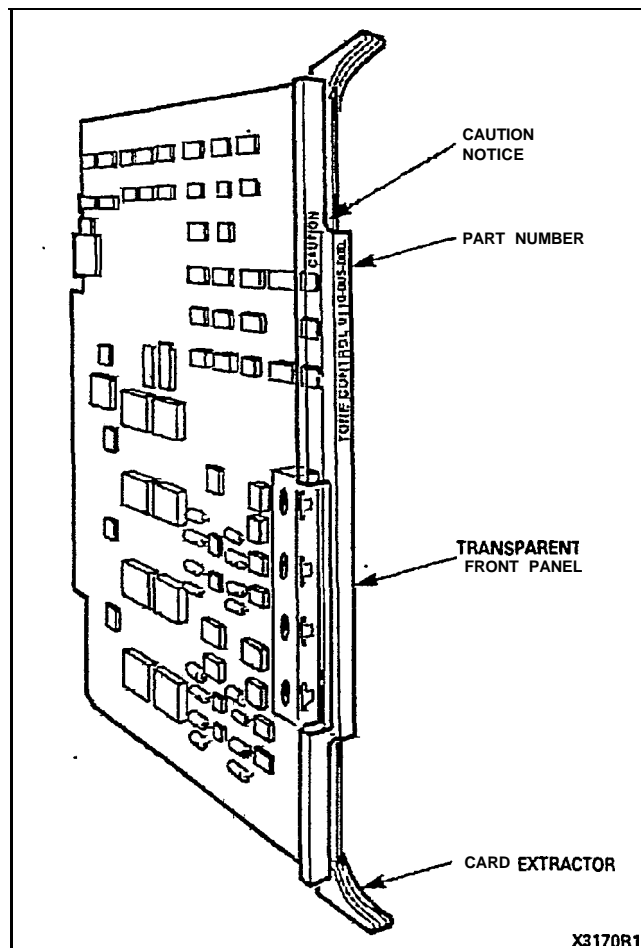

Figure 3-6 Typical Printed Circuit Card
3.21 All circuit cards (see Figure 3-6) within the PABX are identical in construction and consist of a fiberglass board with printed wiring patterns on both of its faces. Riveted to the front of each board is a transparent faceplate which allows the LEDs mounted on the front of the boards to be easily seen. The color-coded card extractors located at the top and bottom of the faceplate identify the card position within a shelf and ensure that the card is seated correctly in the backplane connector.